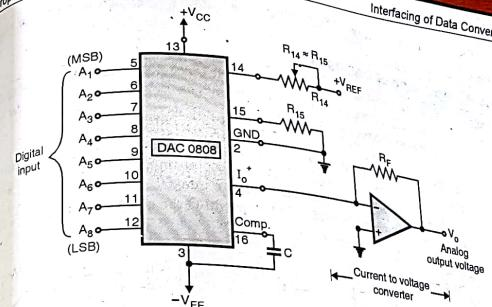

Fig. 20.5.2 : Typical connection diagram for DAC 0808
- The typical connection diagram for DAC 0808 with a positive reference voltage is shown in Fig. 20.5.2.